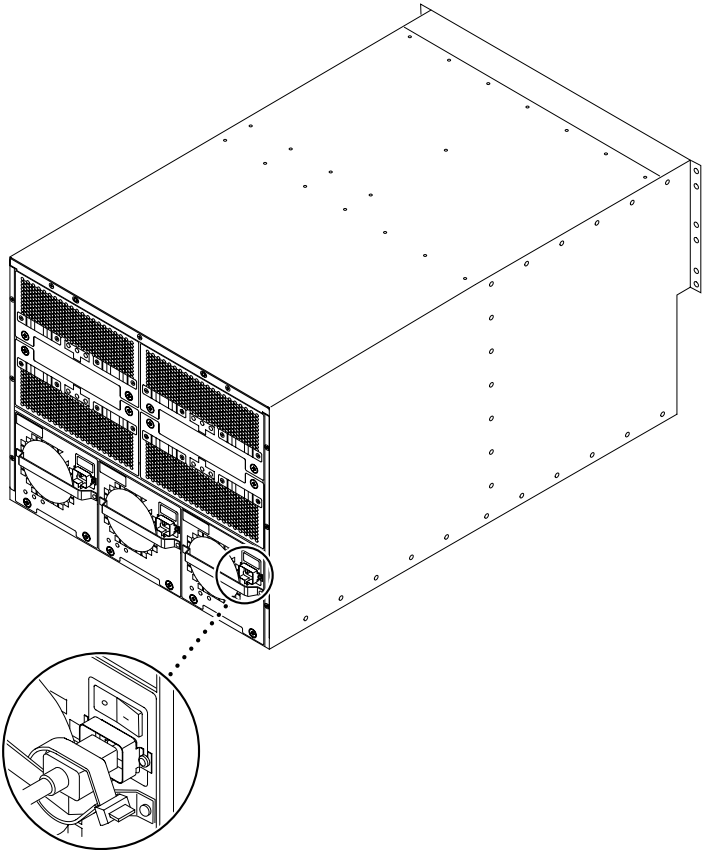

FIGURE 5-1 Power Switch and Power Cord Socket Locations on the Sun Fire 3800 System
1. Turn each power switch to the off position (FIGURE 5-1).
1. Turn each power switch to the on position (FIGURE 5-1).
6. Turn each power switch to the on position (FIGURE 5-1).